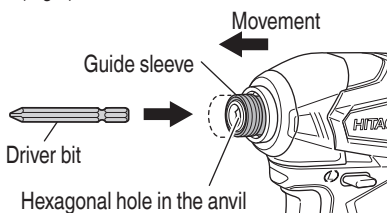

Fig. 9
- Always follow the following procedure to install driver bit. (Fig.9)